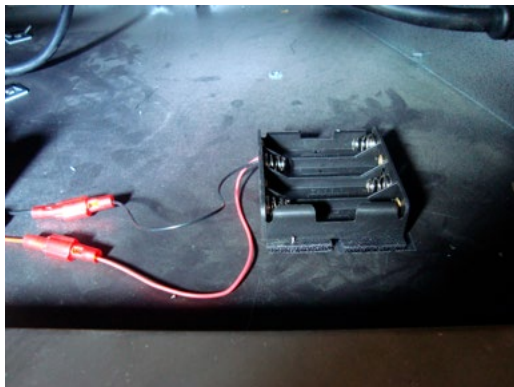

Figure 17 Battery holder wires
2. Connect the red and black wires from the battery holder to the red and black wires from the valve harness. See Figure 17.